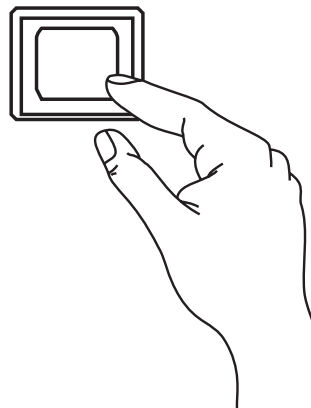

Figure 92. Program Exit Button
4. Release the **Hour Check button** and press the **Program Exit button** (Figure 92) on the ECU controller to return the controller to the main screen.